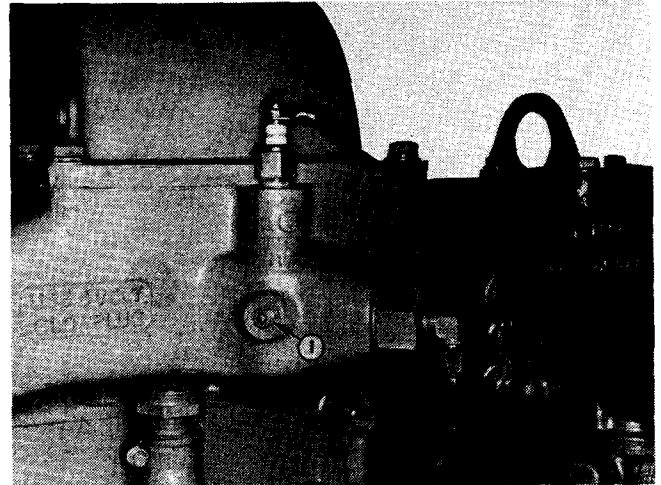

Fig. 1-5, (N11949). Glow plug inspection hole plug - NT engine
1. If the engine gives no indication of starting during the first three full strokes of the preheater pump, touch-check the intake manifold for heat. If there is no heat, check electric wiring. If wiring is all right, remove 1/8 inch pipe plug (1, Fig. 1-5) from manifold near glow plug and carefully check for flame while a helper performs the preceding Steps 2, 3 and 4.